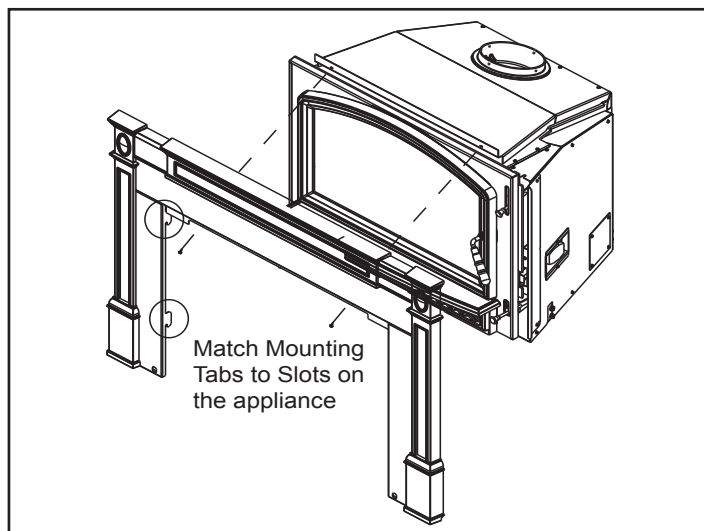

Figure 21.4
11. Slide surround and trim over the top of the insert into place matching the mounting tabs on the metal sides with the slots on the insert. **Figure 21.4.**
12. Align the 2 screws in the top metal surround piece to the 2 alignment holes on the appliance top. Secure in place. **Figure 21.4.**